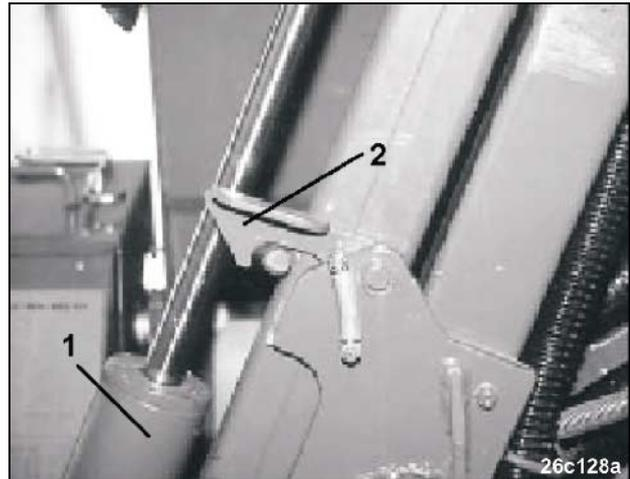

Fig. 133
- Swivel upwards the outer sowing units into transport position with the aid of the hydraulic ram (Fig. 133/1) and lock in this position by using the trip (Fig. 133/2) as illustrated.